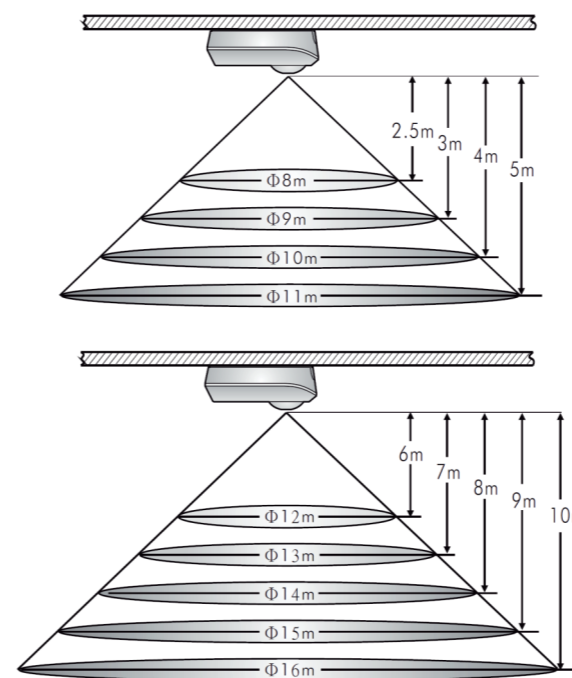

FIG. 2
3.1.1 It is recommended to install the detector at the height of 10m, and the detection range can reach up to the diameter of 16m. (See FIG.2).